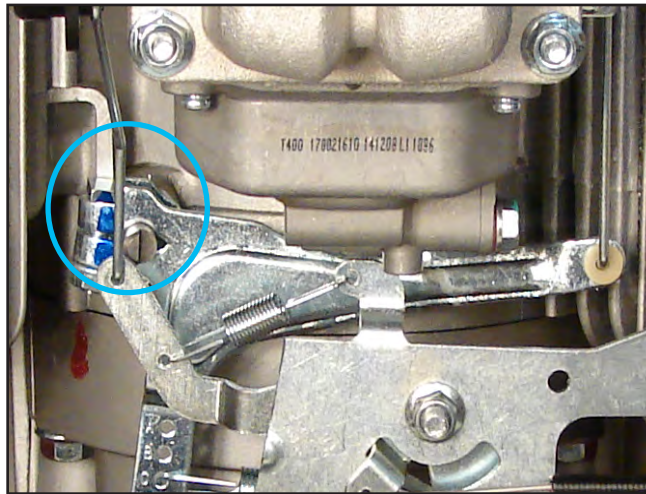

Figure 12
7. Test run to operating temperature and check top no-load RPM with tachometer (Figure 12).